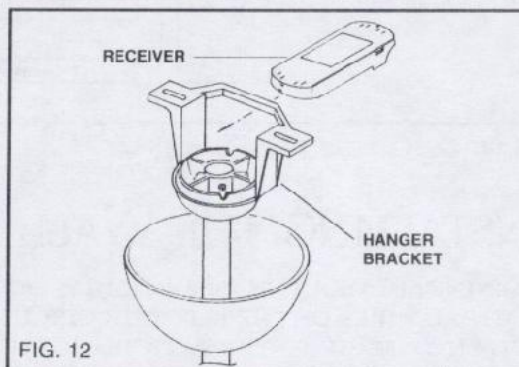

FIG. 12
Step 1. (Fig. 12). Insert the receiver into the Mounting Bracket, with the flat side of the Receiver facing the ceiling.